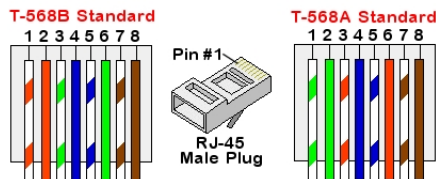

Figure 19: Standard cable wiring
- c. Insert the eight wires into an RJ45 connector, as described in *Figure 19*
7. For the switch/router side, use a pre-crimped cable or use a crimper to prepare an RJ45 communication connector: Insert the eight wires into the RJ45 connector in the same order as above (*Figure 19*).